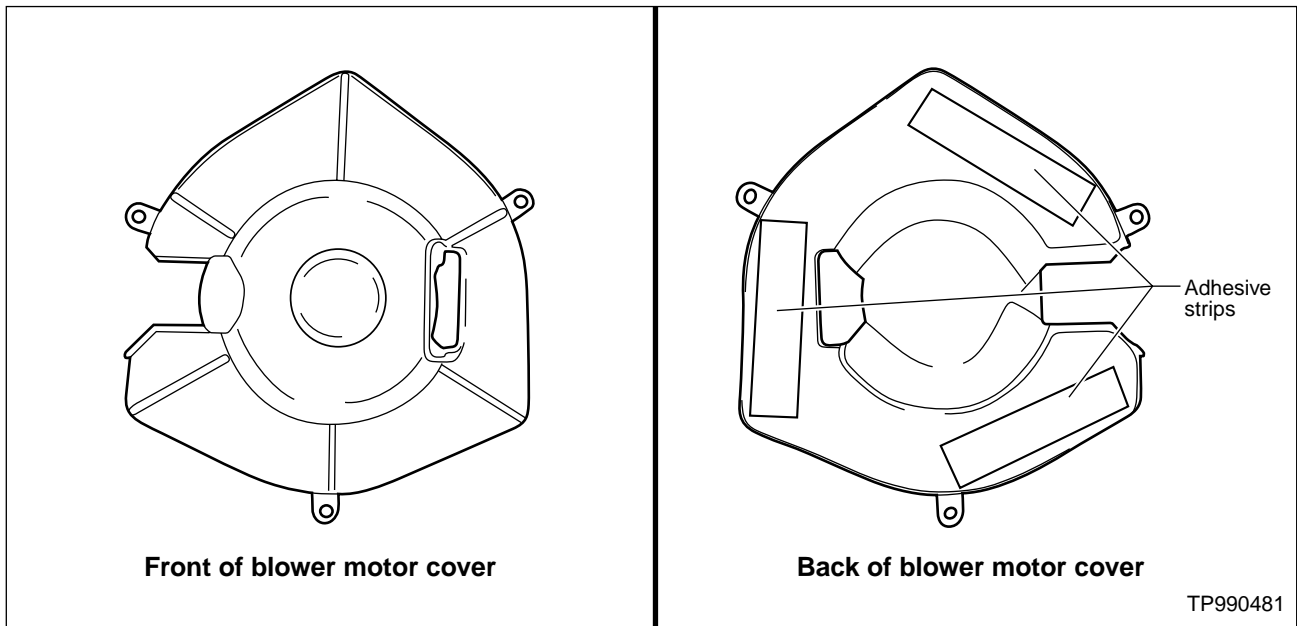

Figure 1
If a customer indicates that a light ticking or humming noise can be heard coming from the blower motor of an applied vehicle when the motor is run at low fan speeds (speed 1 or 2), a new, noise reducing blower motor cover is available (see Figure 1). The noise, if it occurs, may be very slight and, at times, difficult to hear.
4. Peel the protective coverings from the adhesive strips on the blower motor cover (see Figure 1 for adhesive strip locations).